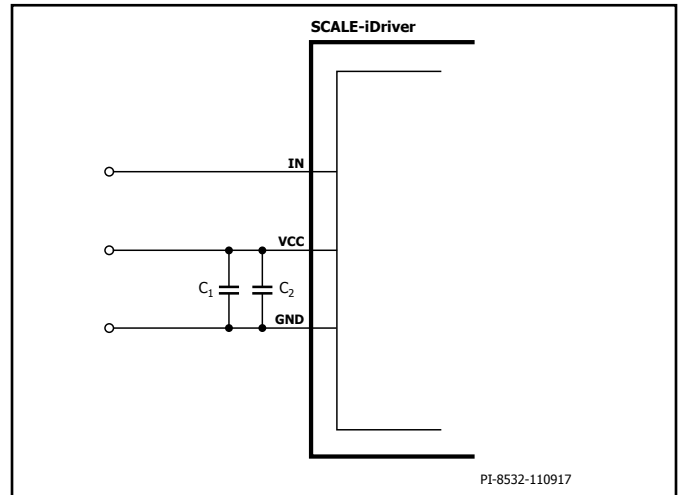
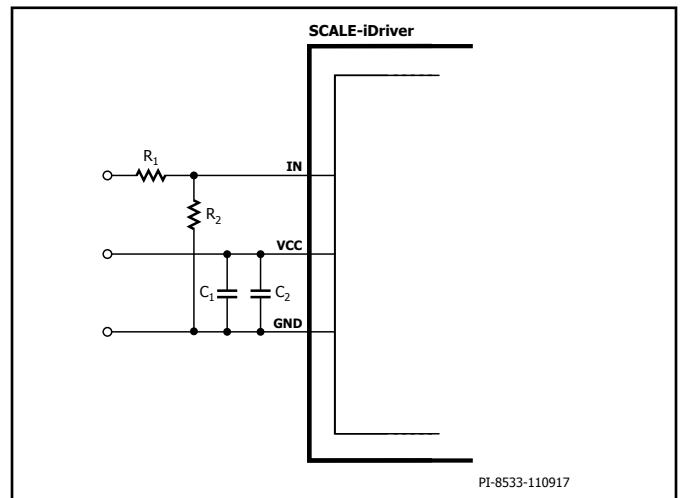
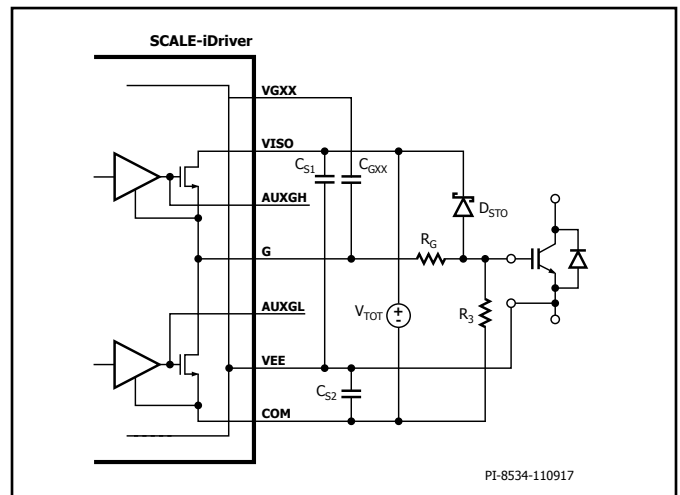
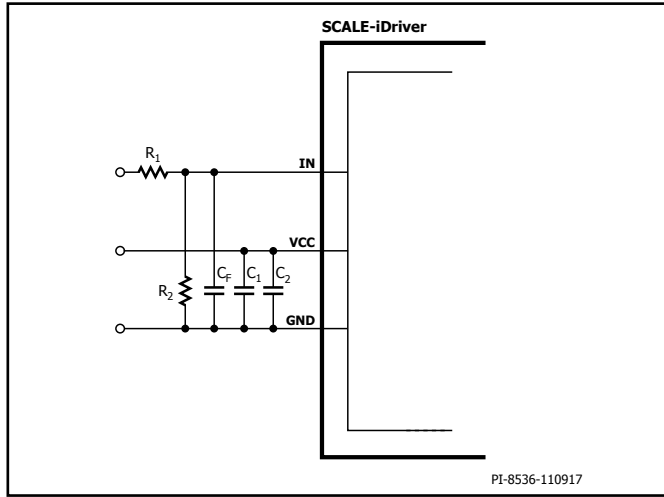

Figure 5. Recommended Circuitry for Standard 5 V IN Logic Level.
Figure 6. Recommended Circuitry for Increased IN Logic Levels. For $R_1 = 3.3 \text{ k}\Omega$ and $R_2 = 1 \text{ k}\Omega$ the IN Logic Level is 15 V.
Figure 7. SID1102K without External Booster Stage.
Figure 8. Optional Input Signal Filtering.
The input (IN) logic is designed to work directly with micro-controllers using 5 V CMOS logic. If the physical distance between the controller and the SCALE-iDriver is large or if a different logic level is required, the resistive divider in Figure 6 is recommended. This solution adjusts the logic level as necessary and will also improve the driver's noise immunity.
The gate of the power semiconductor switch should be connected to the SCALE-iDriver output via pin G, using suitable gate resistor R_G as shown in Figure 7.
It is recommended during power-up and power-down that the IN pin stays at logic low. Any supply voltage related to V_{CC} , V_{ISO} , V_{EE} and V_{GXX} pins should be stabilized using ceramic capacitors C_1 , C_2 , C_{S1} , C_{S2} , and C_{GXX} respectively as shown in Figure 5 and Figure 7. After supply voltages reach their nominal values, the driver will begin to function after a time delay t_{START} .
Figure 5 and Figure 7 show the primary-side and secondary-side schematic and typical components used for SID1102K design without a booster stage, in which the primary-side supply voltage (V_{VCC}) will be connected between VCC and GND pins and supported through supply bypass ceramic capacitors C_1 (4.7 μ F typically) and C_2 (470 nF typically). If the command signal voltage level is higher than the rated IN pin voltage, a resistive voltage divider should be used (Figure 6). Additional capacitor C_F can be used to provide input signal filtering as shown in Figure 8. The filter time τ can be calculated according to equation (1):
To avoid parasitic power-switch-conduction during system power-on the gate is connected to COM through 22 k Ω resistor R_3 as shown in Figure 7.
The primary-side can be setup identical as described in the previous section referring to Figure 5 or Figure 6 or Figure 8.